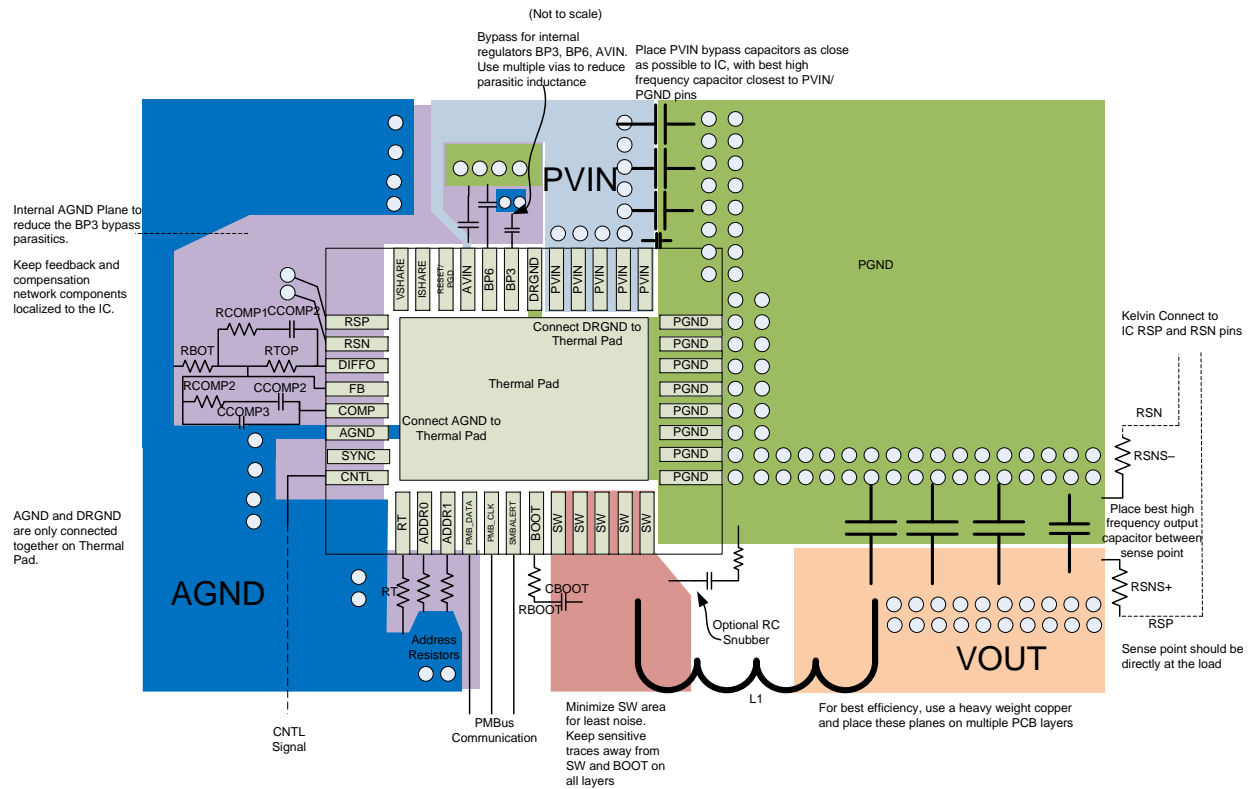

Figure 52. PCB Layout Recommendation
Layout is critical for good power-supply design. Figure 52 shows the recommended PCB-layout configuration. A list of PCB layout considerations using these devices is listed as follows:
- Keep signal components local to the device, and place them as close as possible to the pins to which they are connected. These components include the feedback resistors and the RT resistor. These components should also be kept away from fast switching voltage and current paths. Those components can be terminated to AGND with a minimum return loop or bypassed to the copper area of a separate low-impedance analog ground (AGND) that is isolated from fast switching voltages and current paths and has single connection to PGND on the thermal pad through the AGND pin. For placement recommendations, see Figure 52.
- The PVIN and AVIN pins must be the same potential for accurate short circuit protection, but high-frequency switching noise on the AVIN pin can degrade performance. The AVIN pin should be connected to PVIN through a trace from the input copper area. Optionally form a small low-pass R-C between the PVIN and AVIN pins, with the AVIN bypass capacitor (1  $\mu$ F) and a 0-2  $\Omega$  resistor between the PVIN and AVIN pins. See Figure 52 for placement recommendations.